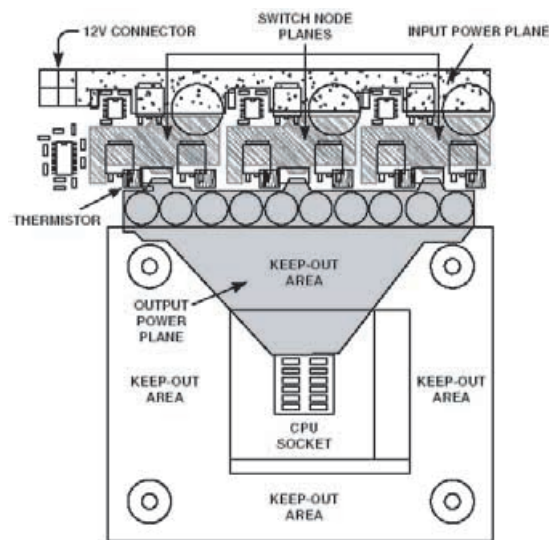

Figure 11. Layout Recommendations
The following guidelines are recommended for optimal performance of a switching regulator in a PC system. Key layout issues are illustrated in Figure 11.
- The components around the FAN53168 should be located close to the controller with short traces. The most important traces to keep short and away from other traces are the FB and CSSUM pins. Refer to Figure 11 for more details on layout for the CSSUM node.